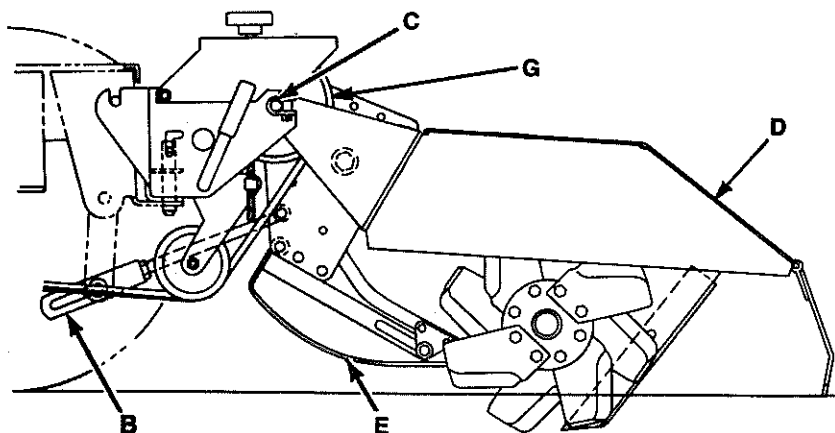

Figure 6-13
- Disconnect lift rod (B, Figure 6-13).
- Remove clevis pins (C) at hitch.
- Remove drive sheave (G, Figure 6-13) and key from shaft.
- a. Screw locking rings (K) and (Y) into the case until the locking ring seats against the bearing carrier. Install a new cotter pin to ensure the locking collar does not rotate.
- c. Re-install drive sheave (G, Figure 6-13).
- e. Re-install depth shoe (E, Figure 6-13) and replace tiller (D).